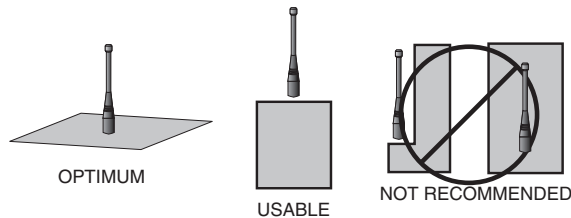

Figure 30: Ground Plane Orientation
2. Optimum performance is obtained from a  $\frac{1}{4}$ - or  $\frac{1}{2}$ -wave straight whip mounted at a right angle to the ground plane (Figure 30). In many cases, this isn't desirable for practical or ergonomic reasons, thus, an alternative antenna style such as a helical, loop or patch may be utilized and the corresponding sacrifice in performance accepted.